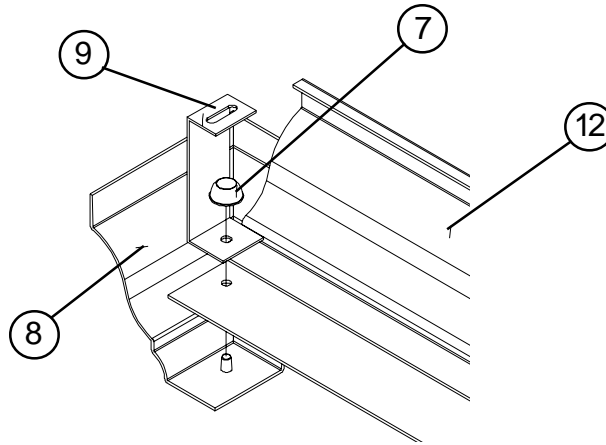
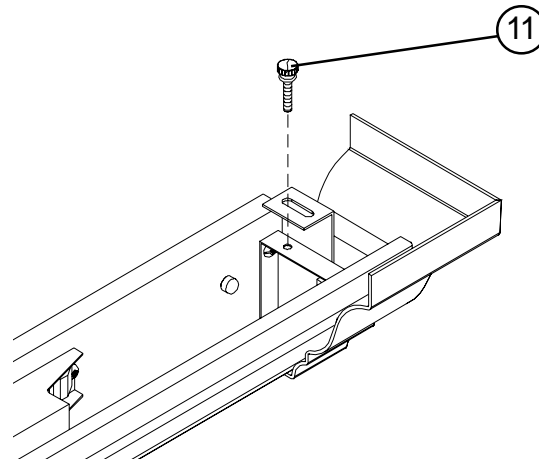

Figure 2
Figure 3
7. **Diffuser Assembly** Position Diffuser (12) over stud on End Cap (8) then place Mounting Hanger (9) over stud and secure with Push-on Fastener (7). **See Fig. 2.** (Repeat on opposite side.)
8. **Install T5 Lamps** (10) by inserting lamp pins into slot at top of sockets and rotating Lamps ¼ turn.
10. **To install Diffuser Assembly** position Mounting Brackets over flanges of Wireway Cover and secure with Knurled Screw(s) (11). **See Fig. 3.**